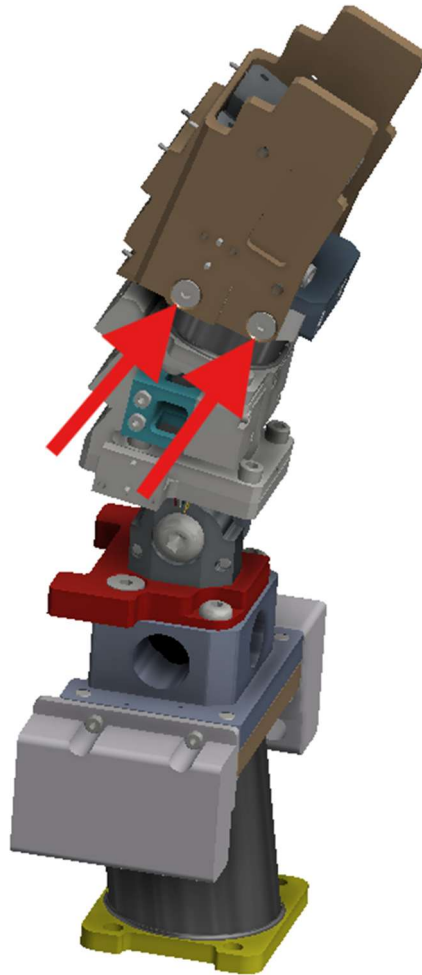

Figure 6-8. Remove the Upper Spine Box (474-3100-A) from the Upper Spine Assembly (474-3240)
- 6.2.1 Remove the Upper Spine Box (474-3100-A) from the Upper Spine Assembly (474-3240) by removing four M6 X 1 X 14 LG. FHCS (Figure 6-8).